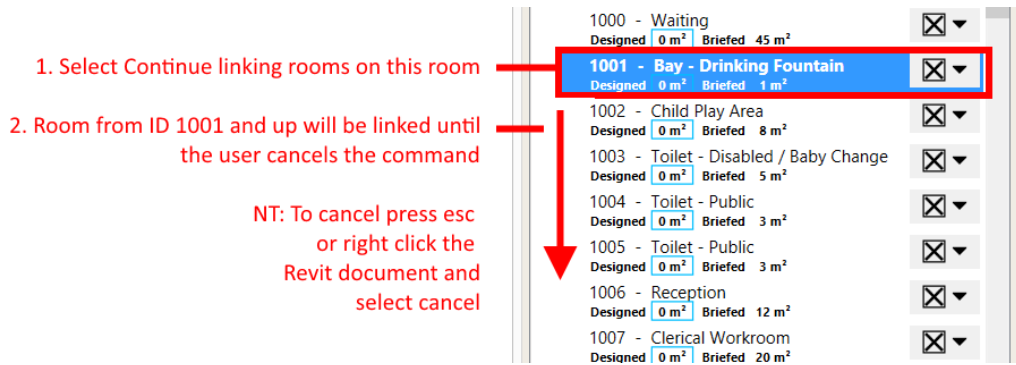

Figure 34 *Project Manager* window – The workflow to continuously link HFBS rooms.
e.g.: The user selects the *Continue Linking Rooms* menu item on room 1, the user then selects the corresponding room 1 in the open Revit project, then room 2, room 3 and so on (see Figure 34).